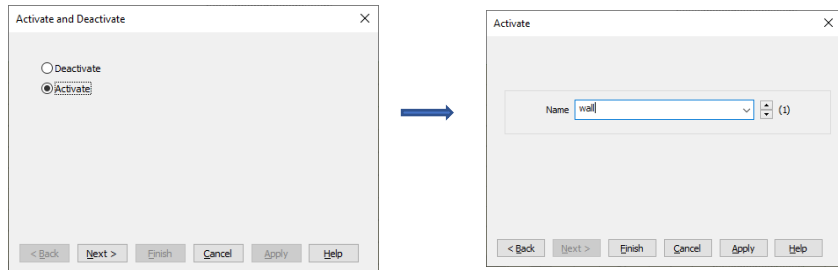

Figure 40: Definition of activate attribute
- Enter a name of **wall** and click **Apply** (figure 40).